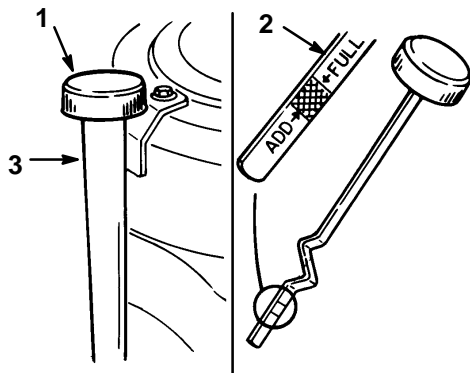

Figure 30
3. Clean around the oil dipstick (Fig. 30) so dirt cannot fall into the filler hole and damage the engine.
4. Unscrew the oil dipstick and wipe the metal end clean (Fig. 30).
5. Screw the oil dipstick fully onto the filler tube (Fig. 30). Unscrew the dipstick again and look at the metal end. If oil level is low, slowly pour only enough oil into the filler tube to raise the level to the “FULL” mark.
6. Slowly pour approximately 80% of the specified amount of oil into the filler tube (Fig. 30). Now check the oil level; refer to Checking Oil Level, page 29, steps 4–5.